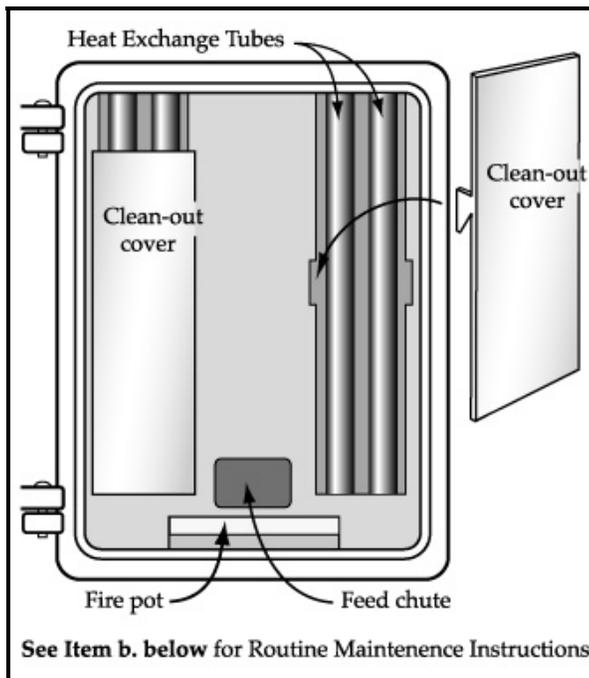

FIGURE 13
retaining notched cutout on vertical wall (see Figure 13). Clean one side at a time. With one cover removed, leave the door open 1" and push the "Clean" button. Let heater run 30 seconds, push to "Off," and replace cover. Remove the remaining clean out cover and repeat procedure for other side.
2. **Cleaning the Exhaust Fan Blade & Heat Exchanger:** The exhaust blower should be checked for excessive fly ash buildup. Regular and routine maintenance utilizing the clean out feature will keep the exhaust blower housing and fan blades clean. This cleaning can only be done when the heater is not burning. For best results, run the fan in the "Clean" position with the door open for approximately 45 seconds or until ash is no longer being picked up by the fan. Remember, you must always check the clean out cap on the tee after utilizing the clean feature (see Figure 13).
Solution: When the pellets are overfeeding, it usually means that the air flow has been reduced. Check the fire pot air intake holes to be sure they are clear. Check to see if fire pot was properly seated in the pot tray. If you use a low-grade pellet and clinkers (fused ash and dirt) form in the bottom of the fire pot and chock the air intake, you might consider changing the brand of pellets to one that burns cleaner. You must let the fire go out before removing and cleaning the fire pot. Never vacuum out the heater when the heater is in operation! The hot ashes can lodge in your vacuum cleaner and cause a fire! You must clean the heat exchanger manifold (see Figure 13) regularly to ensure a good air to fuel ration, thus allowing the heater to "breathe" properly. You must also check the tee and vent pipe to see that they are not clogged and full of ash.